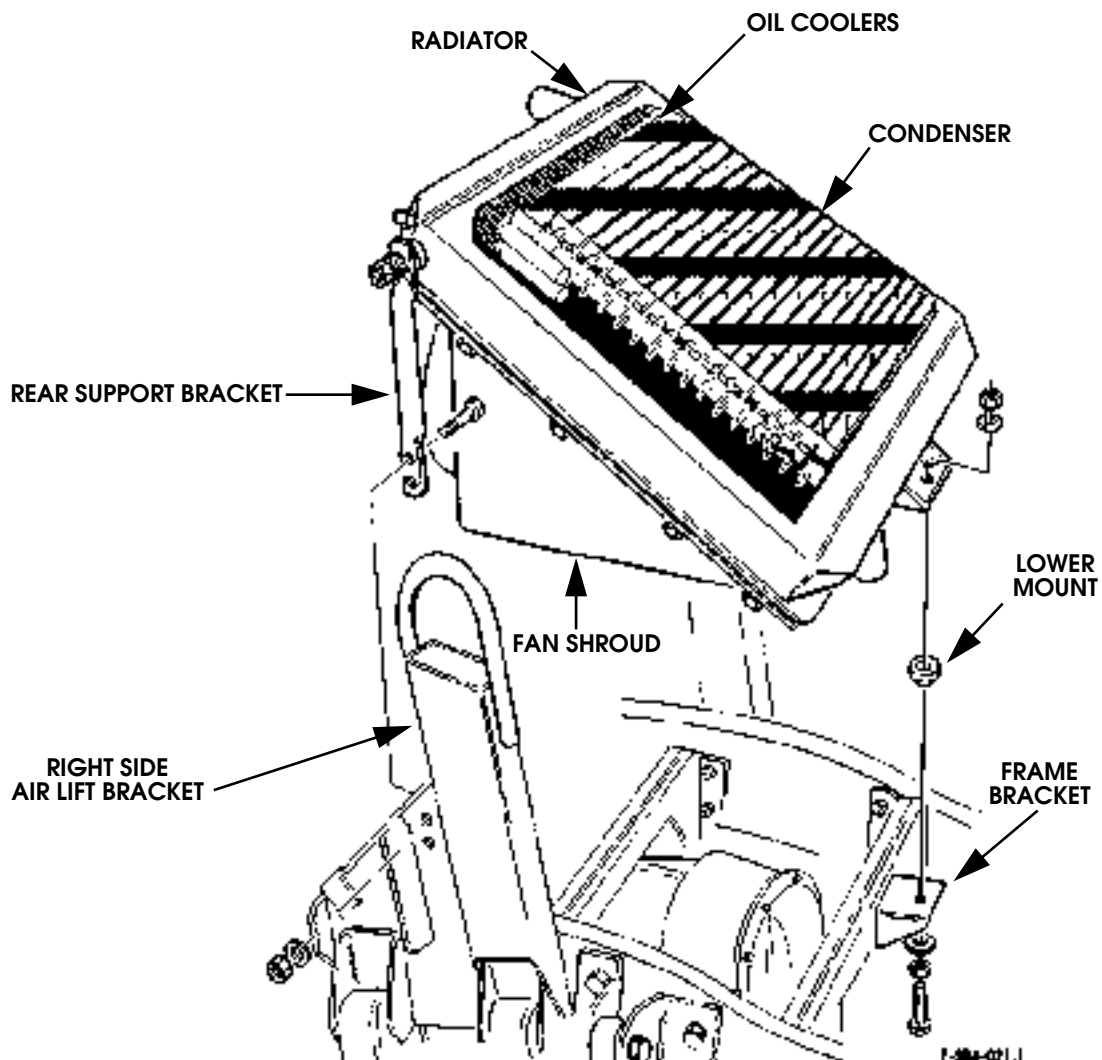

Figure 4-5: Radiator and Fan Shroud Assembly Breakdown
11. Remove lower mount from radiator and frame bracket (Figure 4-5).
14. Remove the radiator from vehicle (Figure 4-5).
1. Remove debris embedded in radiator fins using water and compressed air (Figure 4-5).
1. Secure fan shroud to radiator with retaining strips, lock-washers, and bolts. Tighten bolts to 6 lb-ft (8 N•m) (Figure 4-5).
3. Align radiator with frame bracket, and rear support brackets with airlift brackets (Figures 4-5 and 4-6).
5. Attach lower mount and radiator to frame bracket with washers, and locknut. Do not tighten (Figure 4-5).